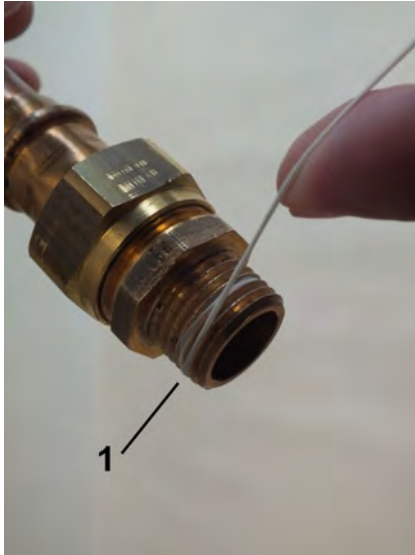

Fig. 8: Apply sealing thread
- #### 2. ➡ Apply sealing thread (Fig. 8/1) to the napped area in the threaded direction. Observe the quantity recommended by the sealant manufacturer.